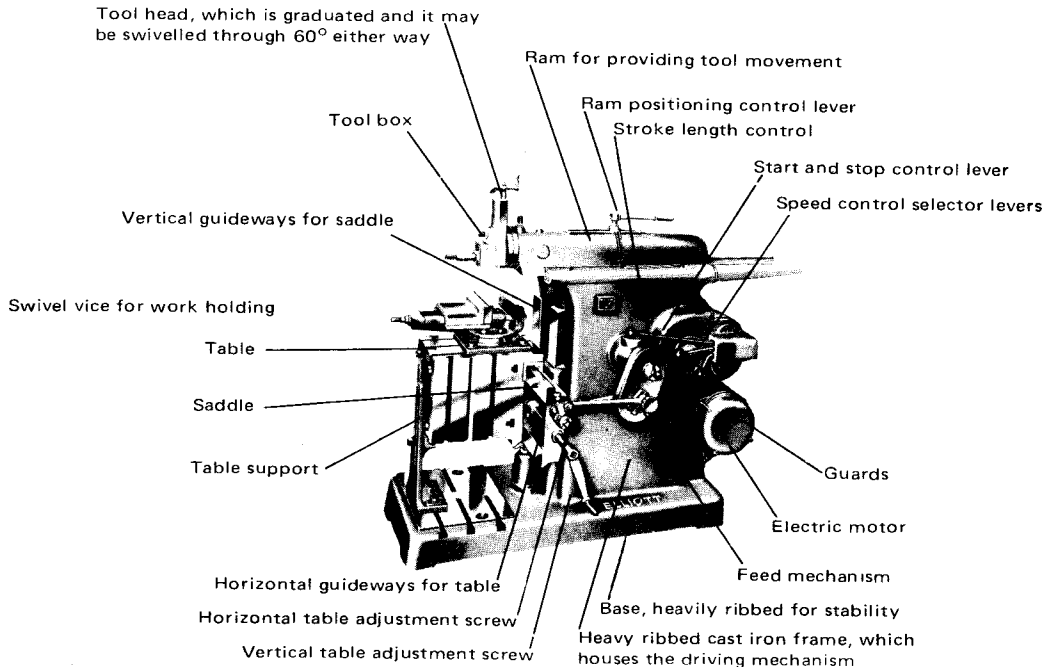

Fig. 4.205 The shaping machine
**The main parts of the shaping machine.** These are illustrated in Fig. 4.205: